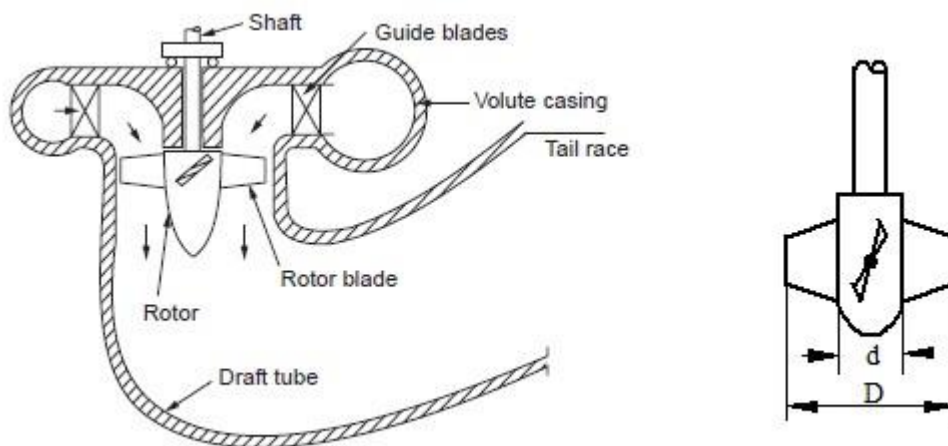

Fig. 5.5 Kaplan turbine
**Answer:** The Kaplan turbine is an axial flow reaction turbine in which the flow is parallel to the axis of the shaft as shown in figure 5.5. In which water enters from penstock into the spiral casing. The guide vanes direct water towards the runner vanes without shock or formation of eddies. Between the guide vanes and the runner, the fluid gets deflected by  $90^\circ$  so that flow is parallel to the axis of rotation of the runner which is known as axial flow. The guide vanes impart whirl component to flow and runner vanes nullify this effect making flow purely axial. As compared to Francis turbine runner blades (16 to 24 numbers) Kaplan turbine uses only 3 to 8 blades. Due to this, the contact surface with water is less which reduces frictional resistance and losses.